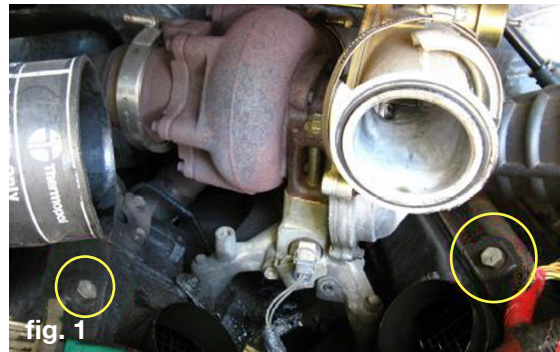

fig. 1
- 1 Locate the oil rail plugs on the left and right head (**fig. 1**). **NOTE: TURBO SPIDER IS SHOWN REMOVED FOR CLARITY. IT IS NOT REQUIRED TO REMOVE IT FOR THE HPx INSTALL.**